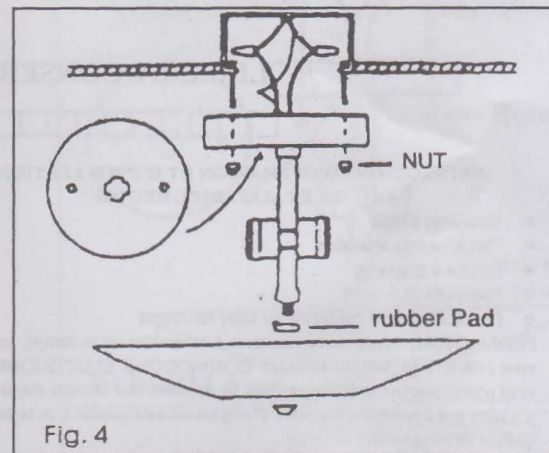

Fig. 4
4. If applicable, attach shades to fixture. Some shades require the use of shade attachment screws. Do not overtighten these screws - too much pressure could cause glass breaking. See Fig. 4 for placement of fabric spacer, not supplied on all models.